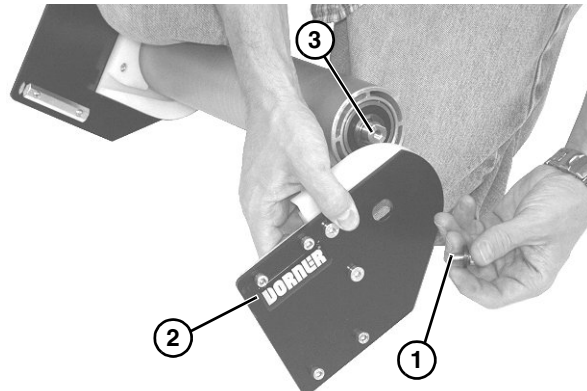

Figure 35
4. Remove socket head screw (**Figure 35, item 1**) from plate (**Figure 35, item 2**) and center of spindle shaft (**Figure 35, item 3**). Repeat procedure on opposite side.